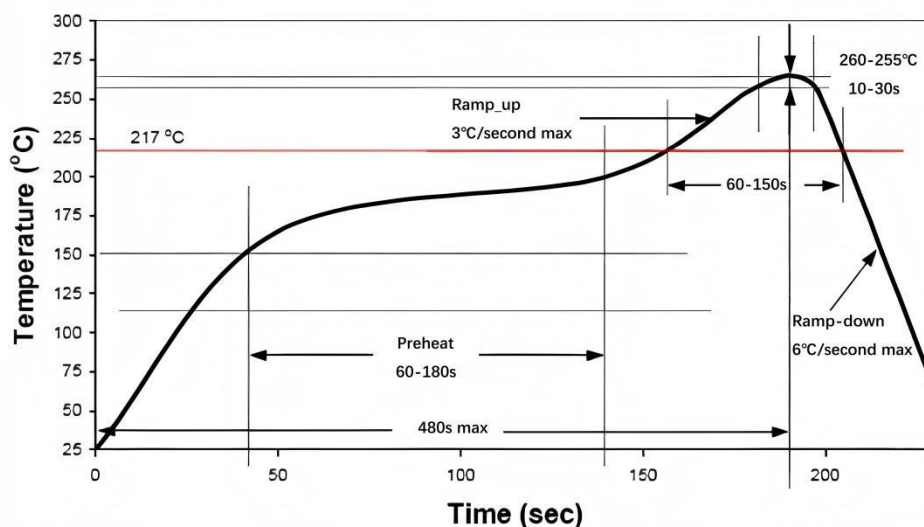

Fig.3 Reflow soldering temperature setting conditions
- The recommended reflow oven temperature setting conditions are shown in Figure 3.